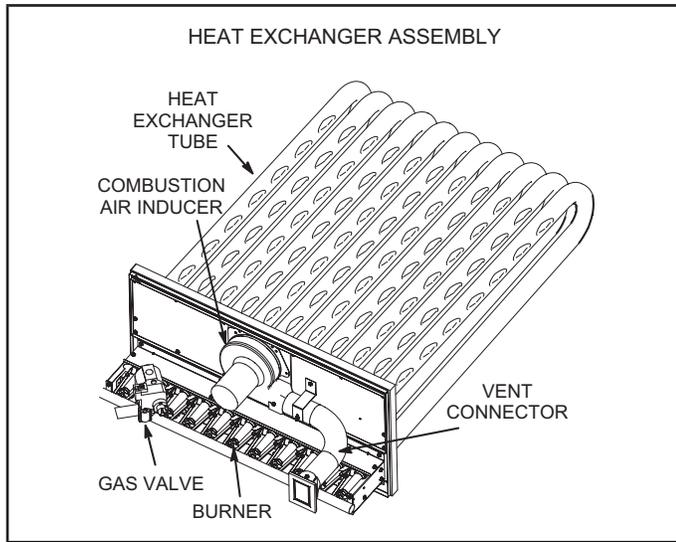

FIGURE 47
- 3 - Remove and retain screws securing combustion air inducer to flue box. Remove and retain two screws from bracket supporting vent connector. See FIGURE 47.